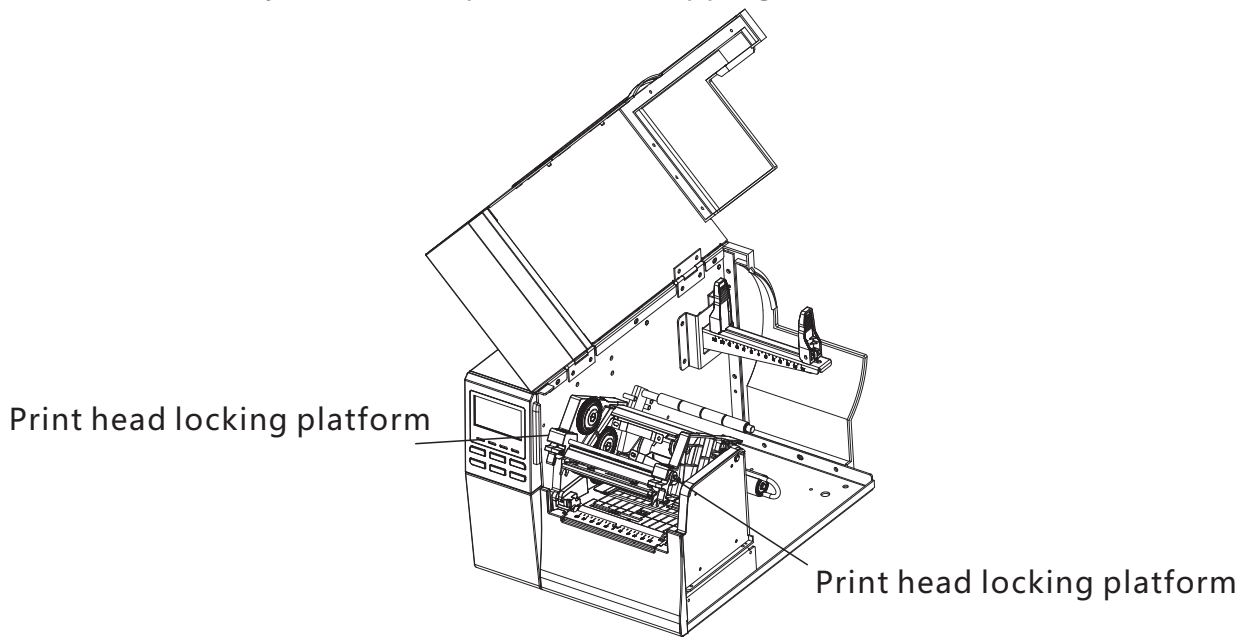

Figure15
2.7.7 As shown in Figure 15, press down firmly on the print head locking platform (as shown in the figure) to close the print head module, until you hear the print head snapping sound.